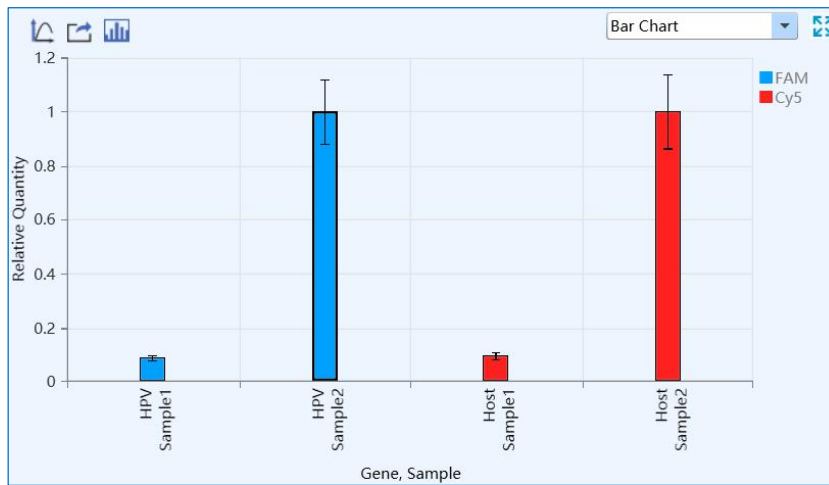

Figure D-11.1 Rel Quant analysis interface - Bar Chart function module
- I. **Bar Chart:** display the relative ratio relationship between target gene & sample and reference gene & sample, as shown in figure D-11.1.